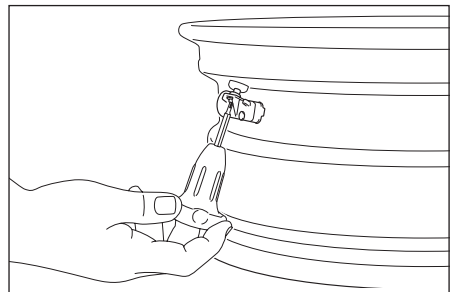

Fig. 3
1. Remove the screw that attaches the sensor to the valve stem and remove the sensor. (see Fig. 3)